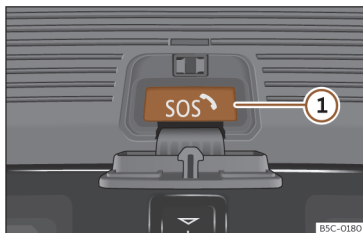

Fig. 47 Emergency call button.
2. Press and hold the emergency call button for a few seconds >>> **Fig. 47 ①.**
>>> Fig. 47 in the event of an emergency.**
The automatic emergency call cannot be interrupted by pressing the emergency call button >>> **Fig. 47.**
2. Press and hold the emergency call button for a few seconds>>> **Fig. 47 ①.**
>>> **Fig. 47 in the event of an emergency.**